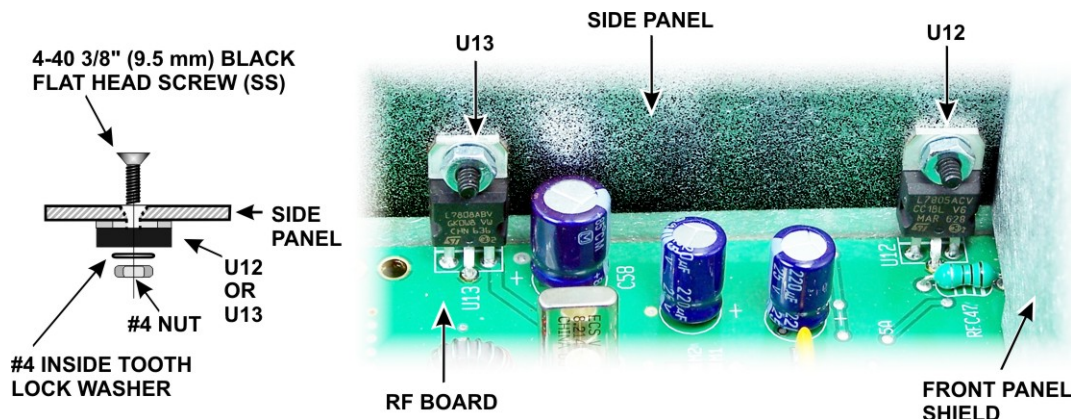

Figure 64. Attaching U12 and U13 to the Right Side Panel.
Attach voltage regulators U13 and U12 to the right side panel as shown in Figure 64 using a 4-40 3/8" (9.5 mm) black flat head screw (SS), #4 inside tooth lock washer and a #4 nut for each regulator as shown. When the screws are tightened the tabs on U12 and U13 should lie flat against the side panel.